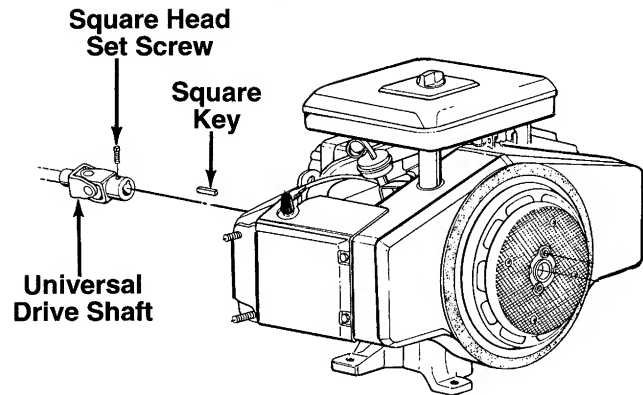

FIGURE 30.
1. Loosen the square head set screw on the front universal joint. See figure 30.